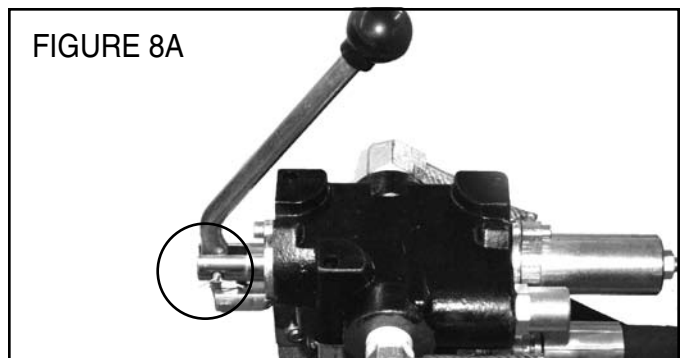

FIGURE 8A
8. **(U.S. Version)** Install hydraulic valve control lever. Secure with pin and cotter key. SEE FIGURE 8A.
**(European Version)** Install both hydraulic valve control levers. Secure with pin and cotter key. SEE FIGURE 8A.